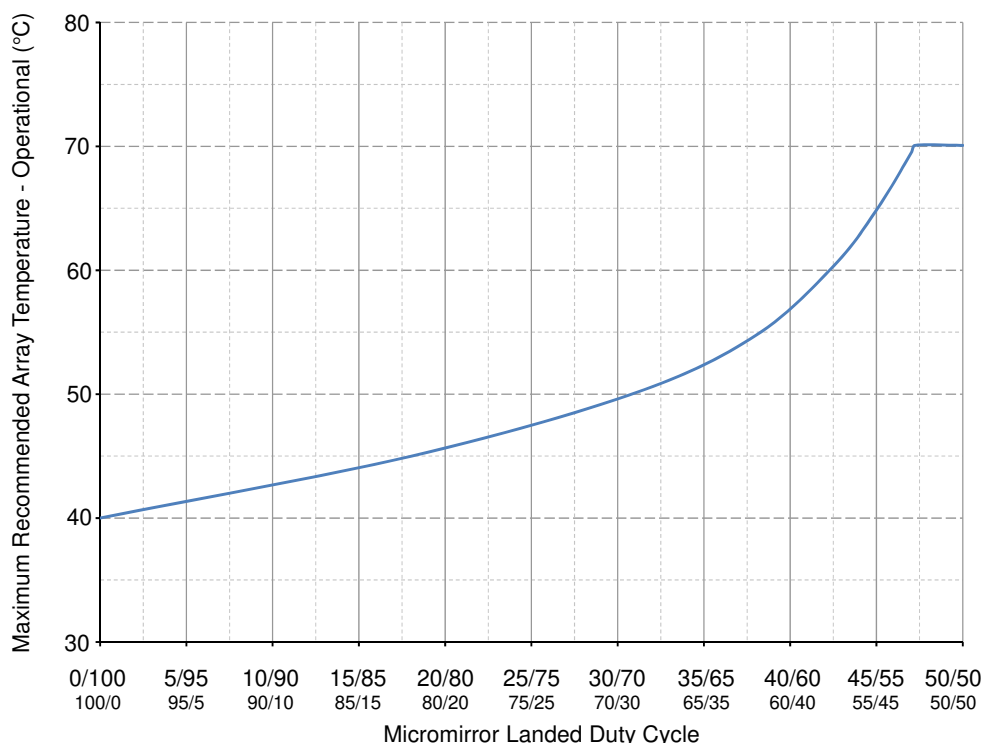

Figure 6-1. Maximum Recommended Array Temperature—Derating Curve
- (13) Per Figure 6-1, the maximum operational array temperature must be derated based on the micromirror landed duty cycle that the DMD experiences in the end application. See Section 7.7 for a definition of micromirror landed duty cycle.
- (14) Long-term is defined as the usable life of the device.
- (15) Array temperatures beyond those specified as long-term are recommended for short-term conditions only (power-up). Short-term is defined as the cumulative time over the usable life of the device and is less than 500 hours.